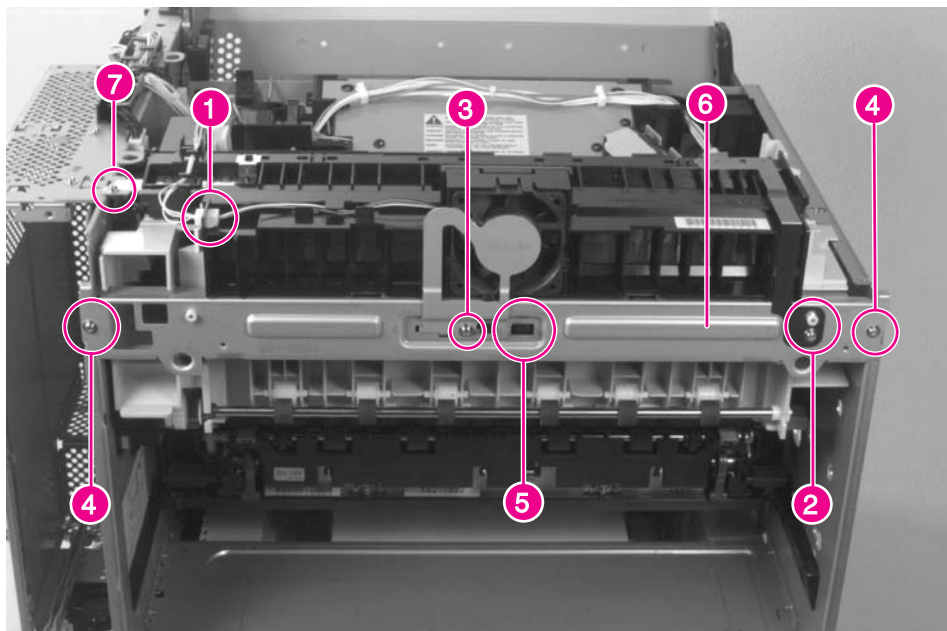

Figure 6-12 Delivery Unit (1 of 2)
- 2 Unplug and re-route the fan cable out of the way (figure 6-12, callout 1).
- 3 Remove 1 screw (figure 6-12, callout 2) to loosen the grounding strip.
- 4 Remove 1 screw (figure 6-12, callout 3), and remove the metal fan shield.
- 5 Open the Diverter Assembly access door, remove 2 screws (figure 6-12, callout 4), release the plastic retaining tabs (figure 6-12, callout 5), and remove the metal mounting bracket (figure 6-12, callout 6).
- 6 Remove 2 screws (figure 6-12, callout 5) and 1 screw (figure 6-12, callout 7).
- 3 Replace the metal mounting bracket (figure 6-12, callout 6) before replacing the Delivery Unit screws. Make sure that the plastic clips (figure 6-12, callout 5) are snapped into place before tightening the mounting screws (figure 6-12, callout 4).